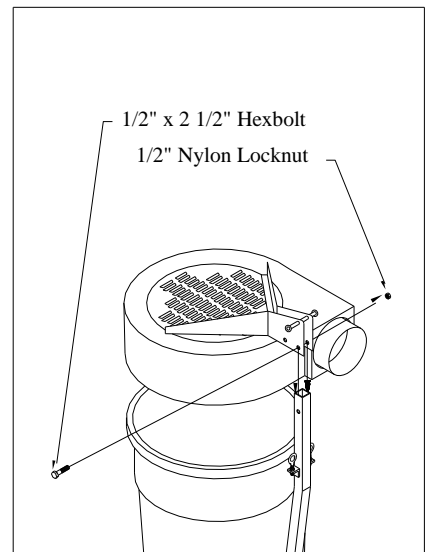

Fig. 9
9. Pivot top assembly back until the springs (9) can be attached to upper spring retainers on top support and to the eyebolts on vertical support installed in step 6. Once springs are attached, pull top assembly down onto container and immediately slip 3/8" x 2 1/4" clevis pin through locking hole in top support and secure with 1/8" cotter key. This locking pin will not allow top to rotate all the way around and allow the springs to come off. Rotate container until container latch (18) lines up with a handle on container (19) and secure latch by locking it over handle. Note: latch may have to be adjusted to be tight on handle. Once achieved, tighten bolts in vertical support (7) and vertical support brace (27). **(Fig. 9 & 10)**